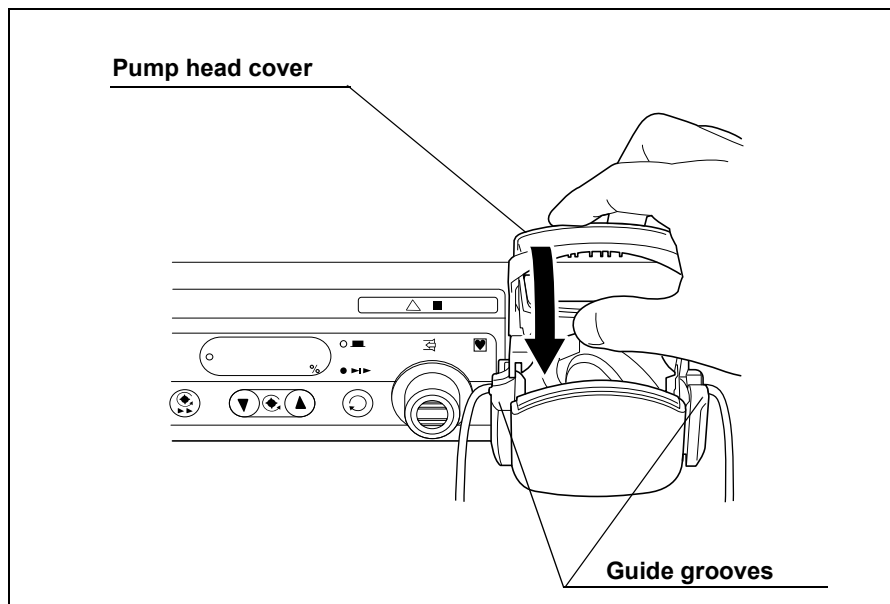

Figure 4.15
3. Confirm that the irrigation tube is in both guide grooves of the pump head, then close the pump head cover (see Figure 4.15).